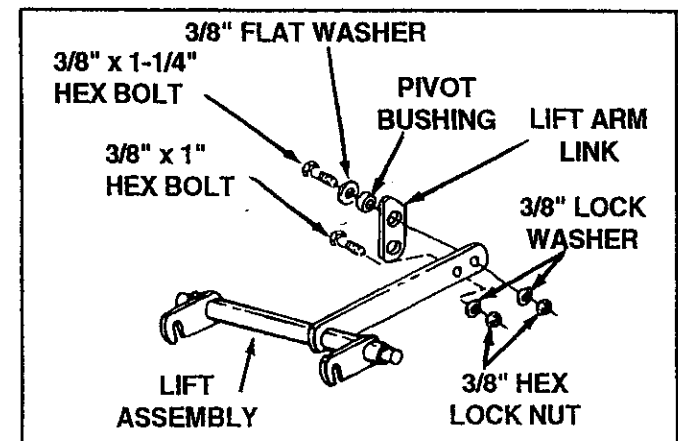

FIGURE 17
13. Pre-assemble lift arm link to inside of long arm on lift assembly. As shown in figure 17.
14. Assemble one 3/8" x 1-1/4" hex bolt through 3/8" flat washer, through pivot bushing, through large hole in lift arm link near angle end and through hole in long arm nearest the end. Secure with one 3/8" lock washer and one 3/8" hex lock nut. See figure 17. NOTE: Lift arm link must pivot freely.
15. Assemble one 3/8" x 1" hex bolt through second hole from end of long arm. Secure with one 3/8" lock washer and one 3/8" hex lock nut. This bolt is used as a limit stop for the lift arm link. See figure 17.
Lift arm link must be positioned as shown in figures 17 and 19.